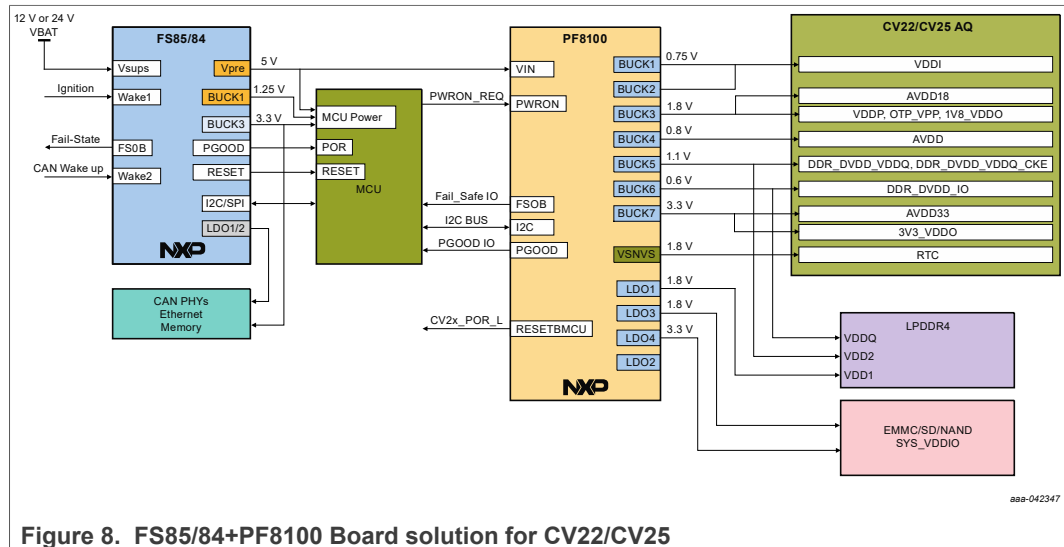

Figure 8. FS85/84+PF8100 Board solution for CV22/CV25
For 24 V and 12 V battery compatible systems, the power solution can be designed as shown in Figure 8. In addition, the FS85 is capable of supporting ASIL-D systems and is suitable for powering and securing safety MCU's which require ASIL-D(B) level compliance.